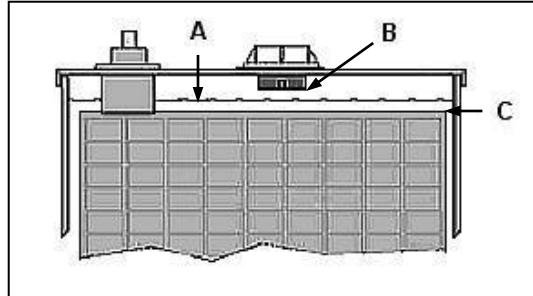

Figure 4.2
See Figure 4.2. Never allow the electrolyte level (A) to fall below the top of the plates (C). If the plates are exposed, add only enough to cover the plates before charging. After batteries are fully charged, fill cells to just below the bottom of the cell vents (B), approximately 1/8" to 1/4". Electrolyte level should not touch the bottom of the cell vents.